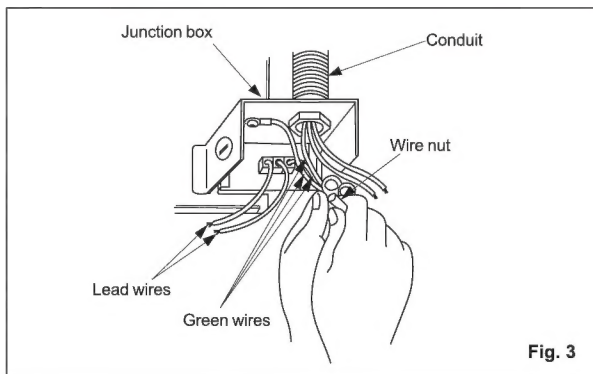

Fig. 3
4. Remove junction box cover and secure conduit to junction box knockout hole. (7/8 inch) (Fig. 3)
Using wire nuts, connect house power wires to ventilating fan wires (Fig. 3): black to black; white to white; green to green.